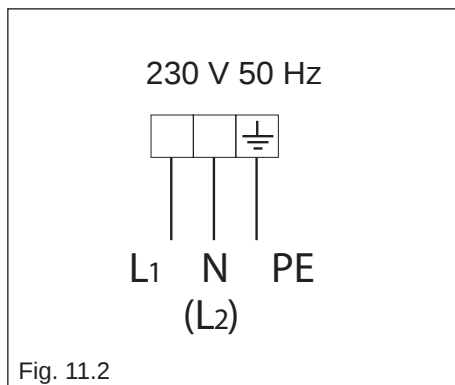

Fig. 11.2
- Connect the wires to the terminal block “B” according to the diagram in figure 11.2.